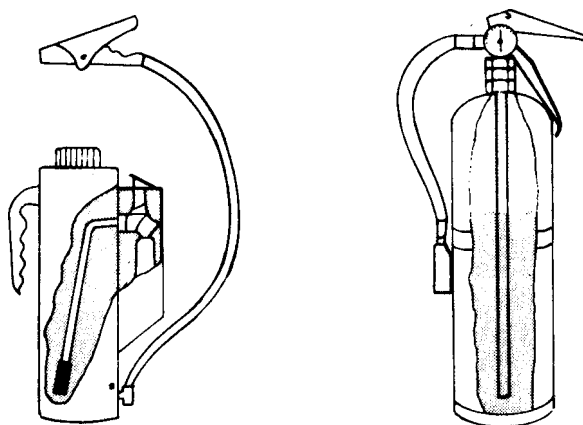

Figure 2-57. Dry chemical extinguisher.
a. Dry chemical extinguishers are of two basic types. One type is pressurized with 150 psi (10.5 kilograms per square centimeter) of dry nitrogen or dry air, and the other has a cartridge with CO_2 under pressure. When the cartridge of the second type is punctured, CO_2 pressure expels the agent (fig. 2-57).